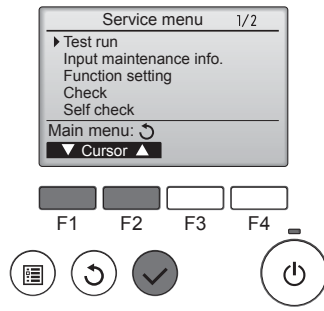

Fig. 7-4
- ③ Select "Test run" with the **[F1]** or **[F2]** button, and press the button. (Fig. 7-4)